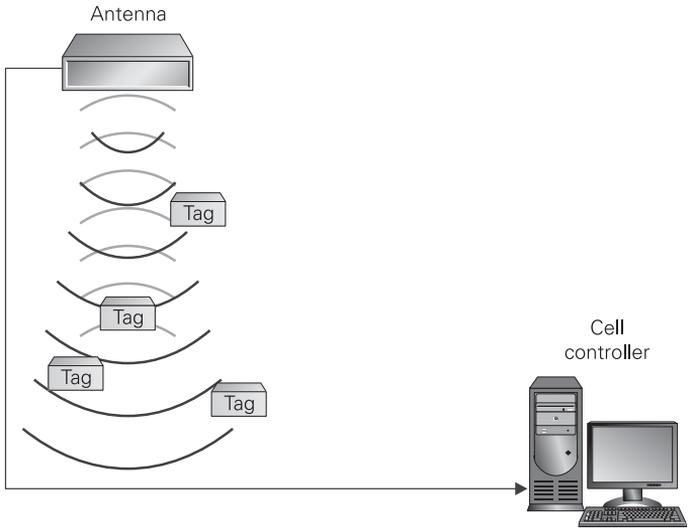

FIGURE 5.9 Time-of-flight ranging system
- **Time-of-flight ranging systems** (Figure 5-9) These systems wake up tags on a given frequency, and then measure how long it takes the tag to respond on a different frequency, which gives the system an approximate distance for the tag from the antenna.